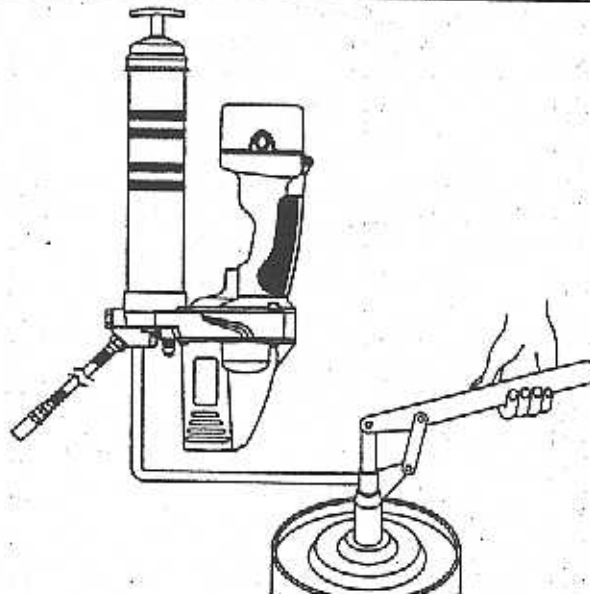

Fig.8
3. Piston rod will be extended fully when the level of filler pump is operated. See Fig.8